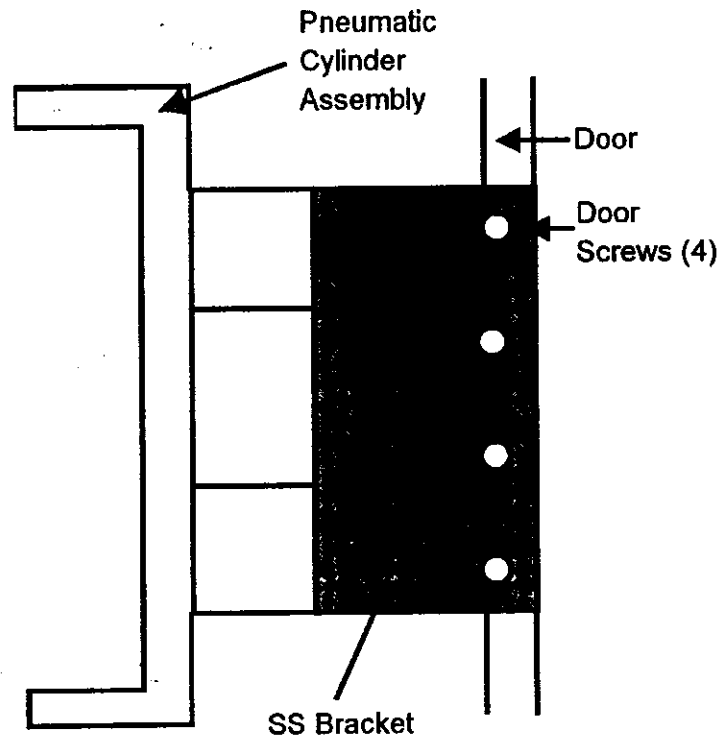

FIGURE 1
- c. Door Removal - The auto door is attached to the pneumatic cylinder assembly by two stainless steel brackets. Each bracket (see figure 1), attaches to the door with four screws. After removal of the eight screws, pull the door away from the tool. Extreme caution should be taken to ensure that the pneumatic cylinder bracket assemblies are not turned outward on the tool. When the door is closed, the door photo sensor interlocks are engaged, and if the assemblies are forced outward, the photo sensor may be damaged.